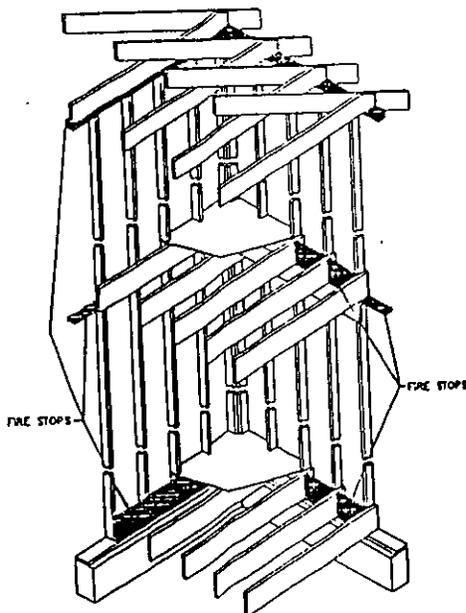

FIGURE 602.7a
1. In concealed spaces of stud walls and partitions, including spaces at the ceiling and floor levels (see Figures 602.7a and 602.7b).